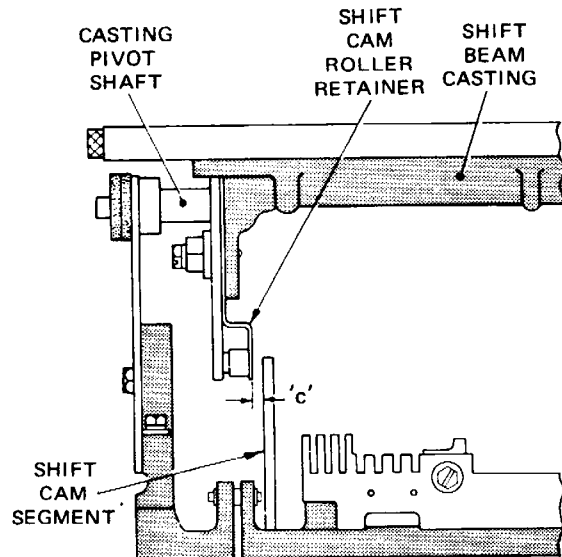

Fig. 4.2 SHIFT MECHANISM (REAR VIEW)
- 3.1 Check that there is a clearance of 0.015–0.025 inch (dimension 'c') between the shift cam roller retainer, Fig. 4.2, and the shift cam segment, ensuring that the retainer is straight and is pressing on the roller.